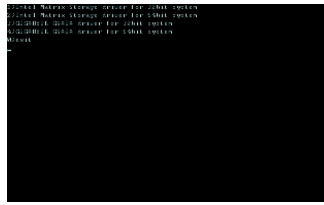

Figure 2
Step 2: When the controller menu (Figure 2) appears, remove the startup disk and insert the blank formatted disk. Select the controller driver by pressing the corresponding letter from the menu and press <Enter>. For example, from the menu in Figure 2, for Intel ICH10R SA TA controllers, select 1)Intel Matrix Storage driver for 32bit system for Windows 32-bit operating system or 2)Intel Matrix Storage driver for 64bit system for Windows 64-bit^(Note 2). Your system will then automatically zip and transfer this driver file to the floppy disk. Press any key to exit when finished.
Use an alternative system and insert the motherboard driver disk. From your optical drive folder, double click the **Menu.exe** file in the **BootDrv** folder (Figure 3). A command prompt window will open similar to that in Figure 2.
(Note 2) The GIGABYTE GSATA drivers in the menu in Figure 2 are required if you want to install the Windows operating system onto hard drives that are connected to the GIGABYTE SATA2/JMB322 controller and configured to AHCI mode in BIOS Setup. For installation of the driver during the OS installation, refer to section 5-1-4.